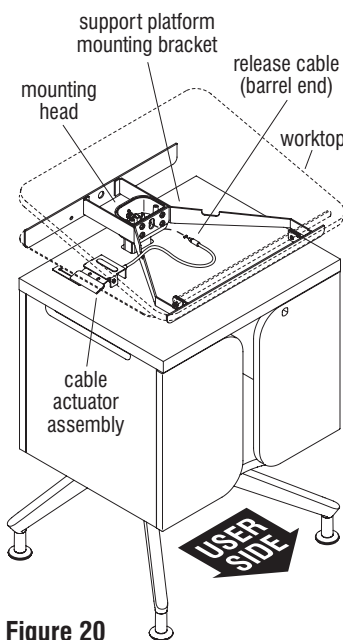

Figure 20
3. While holding the worktop support bracket up against the worktop, continue to guide the barrel end of the cable through the oval-shaped hole under the support platform and into the mounting head (Figure 20 & Detail Z).